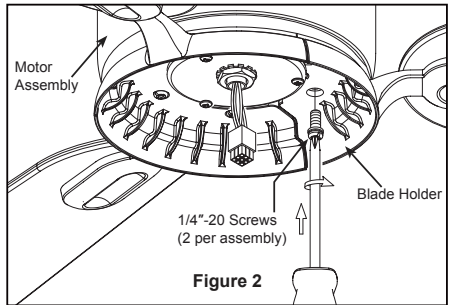

Figure 2
- 2. Secure the blade holders to the bottom of the motor assembly using the 1/4"-20 screws from the hardware bag. (Figure 2)